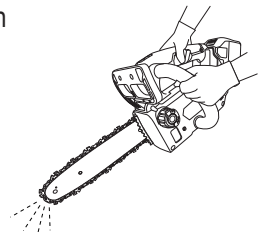

Fig. 21
- ① Press the switch while sliding the lock-off lever.
- ② Once the saw chain begins turning, push the chain brake forward toward the saw chain.
- ③ If the saw chain stops, the chain brake is functioning as it should. To release the brake, release the switch and pull back on the chain brake.
6. Checking chain oil discharge (Fig. 21)